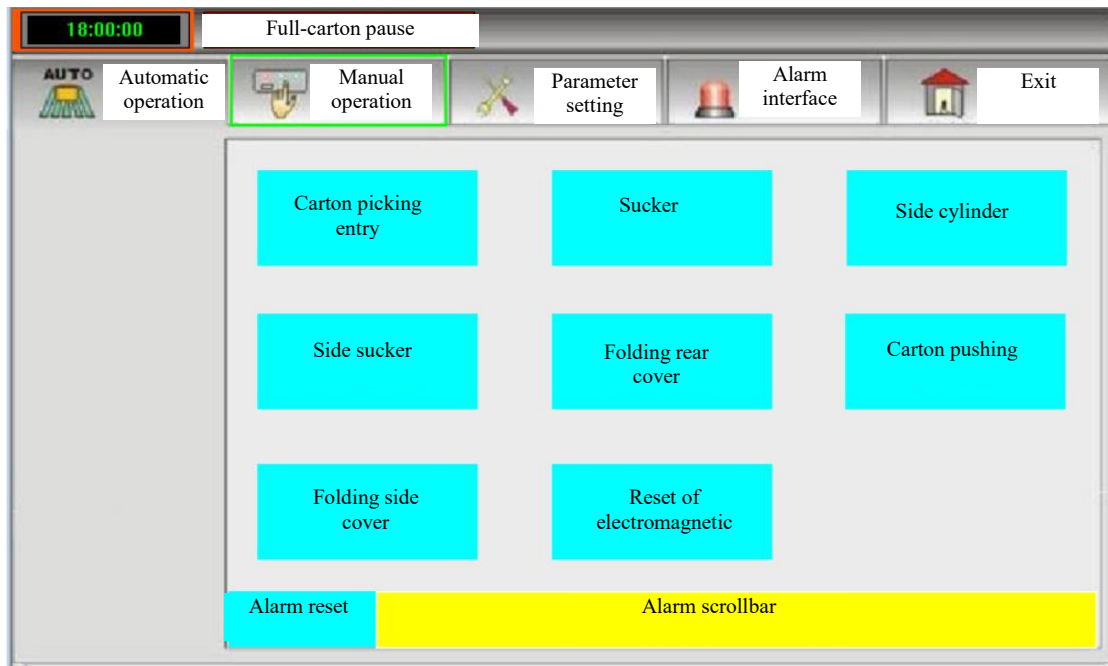

Figure 12
5) Manually click to execute relevant operations, as shown in Figure 12: